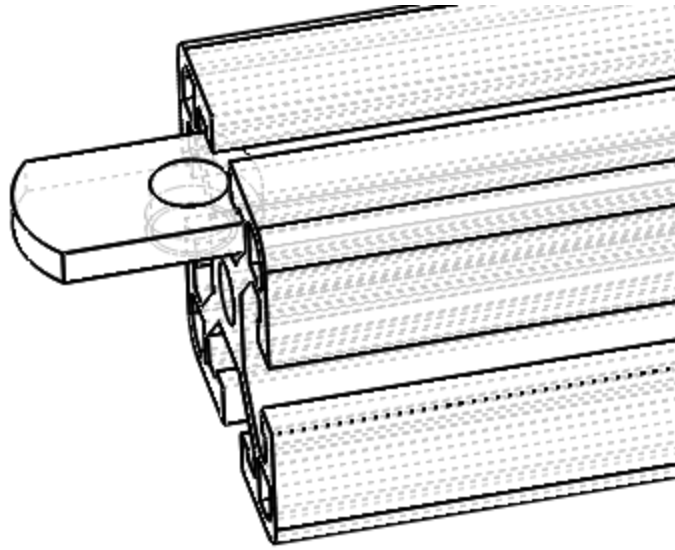

Fig. 3.6: Female part end fastener (#YREC) in the 4 ft Single rail (#HJXK)
- ☐ Insert four female parts of the end-feed fasteners (#YREC) on the groove into the slot of one beam (#HJXQ). You may insert into any side of the beam, but must keep all four in the same side. Once inserted, turn the beam and make the side with the end-feed fastener parts facing up. As shown in Fig. 3.6.
- ☐ Insert eight female end-feed fastener parts (#YREC) on the groove of the slot in each beam (#HJXQ), the side of the beam with fastener parts should be facing up. (See Fig. 3.6)
- ❑ Insert **two** female parts of the end-feed fasteners (#YREC) on the groove into the slot of one beam (#HJXQ). You may insert into any side of the beam, but must keep all four on the same side. Once inserted, turn the beam and make the side with the end-feed fastener parts facing up. As shown in Fig. 3.6.